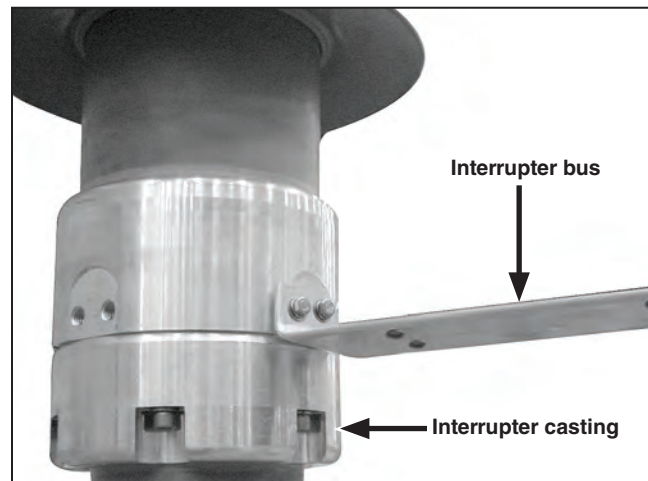

Figure 22. Attach the interrupter bus to the tapped holes on the interrupter casting.
- (d) Attach the interrupter bus to the set of tapped holes in the interrupter using the coated cap screws and two stainless steel lock washers furnished. See Figure 22. Tighten the screws to a torque of 40 to 50 ft.-lbs.